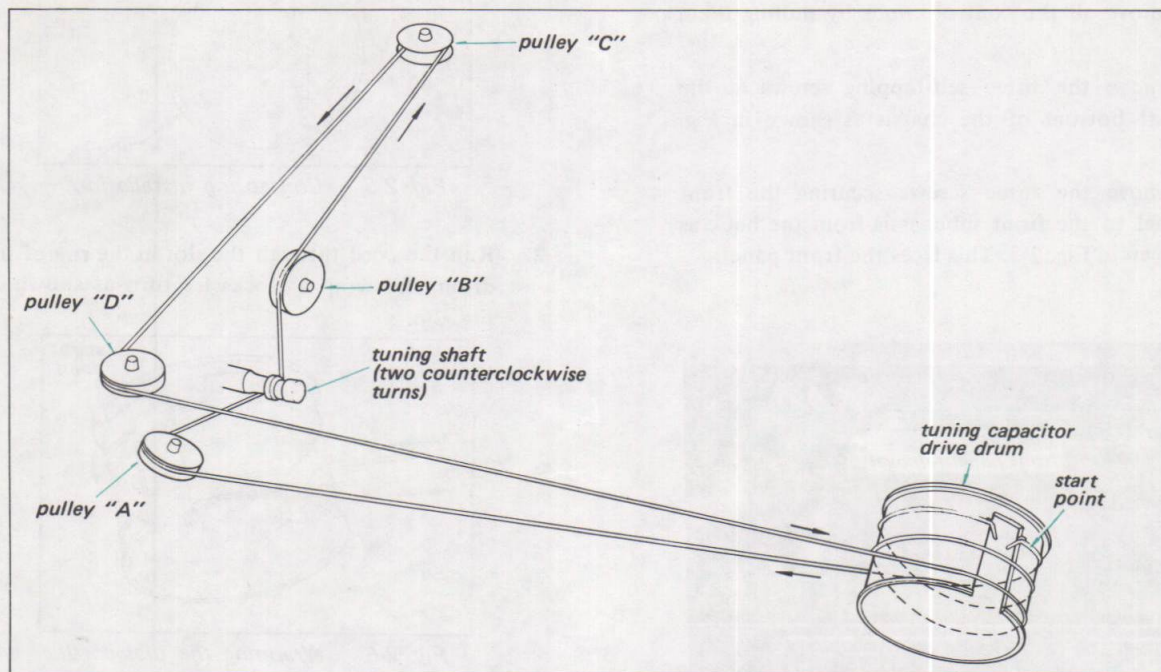

Fig. 2-8. Dial cord stringing
While referring to Fig. 2-8, proceed as follows:
4. Run the cord over pulleys "B", "C" and "D", then wrap two clockwise turns around the drum from outer groove to inner groove as shown in Fig. 2-8.
5. Pass the doubled end of the cord through the eyelet, then hook it to the coil spring as shown in Fig. 2-8.